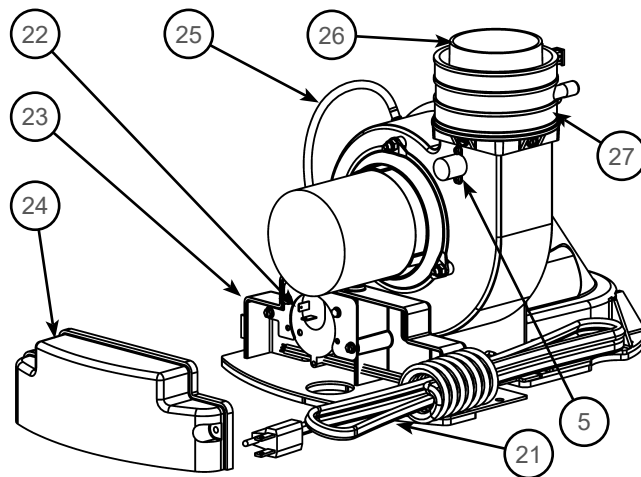

Figure 60.
- 5 Blower High Limit Switch (see Figure 6) (see also Figure 60)
- 21 Blower with Power Cord (see also Figure 6) (see also Figure 60)
- 22 Air Switch (inside box) (see Figure 6) (see also Figure 60)
- 23 Junction Box (see Figure 6) (see also Figure 60)
- 24 Junction Box Cover (see Figure 6) (see also Figure 60)
- 25 Air Tubing (see Figure 6) (see also Figure 60)
- 26 Rubber Coupling (see also Figure 6) (see also Figure 60)
- 27 Gear Clamp (see also Figure 6) (see also Figure 60)